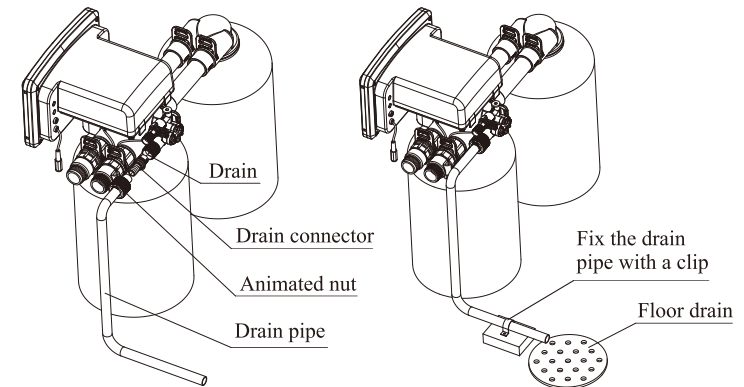
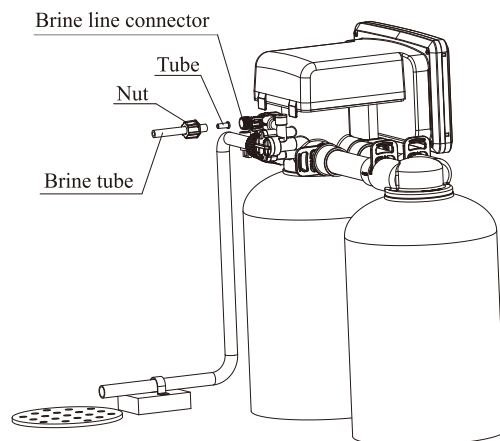

Figure 6
Figure 7
As Figure 6 shows, insert one end of the drain flexible pipe into the drain connector; tighten the connector and drain outlet with animated nut; put the other end of the drain flexible pipe to the floor drain and fix it.
- Be sure not connect drain with sewer directly, and leave a certain space between them (as Figure 6 shows), to avoid waste water being absorbed to the water treatment equipment.
⑤ Install Brine tube
- As Figure 7 shows, slide brine tube hose connector over end of brine tube.